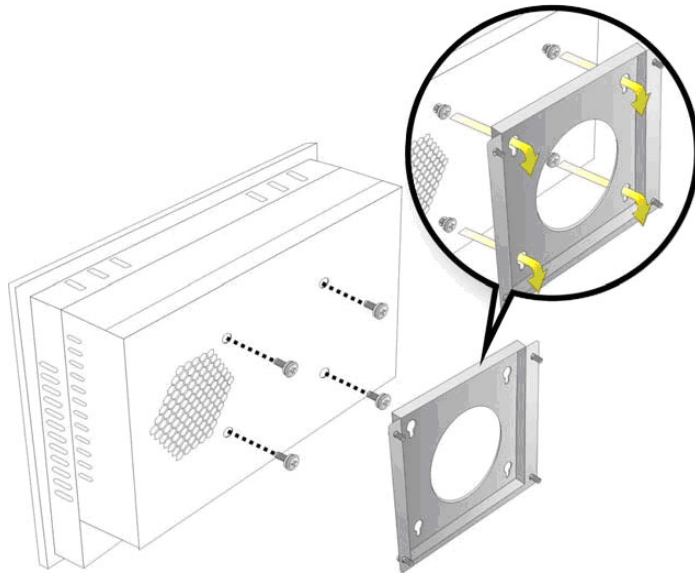

Figure 3-21: Mount the Chassis
- Step 6:** Insert the four monitor mounting screws provided in the wall mounting kit into the four screw holes on the rear panel of the monitor and tighten until the screw shank is secured against the rear panel (**Figure 3-21**).
- Step 2:** Carefully insert the screws through the holes and gently pull the monitor downwards until the monitor rests securely in the slotted holes (**Figure 3-21**). Ensure that all four of the mounting screws fit snugly into their respective slotted holes.